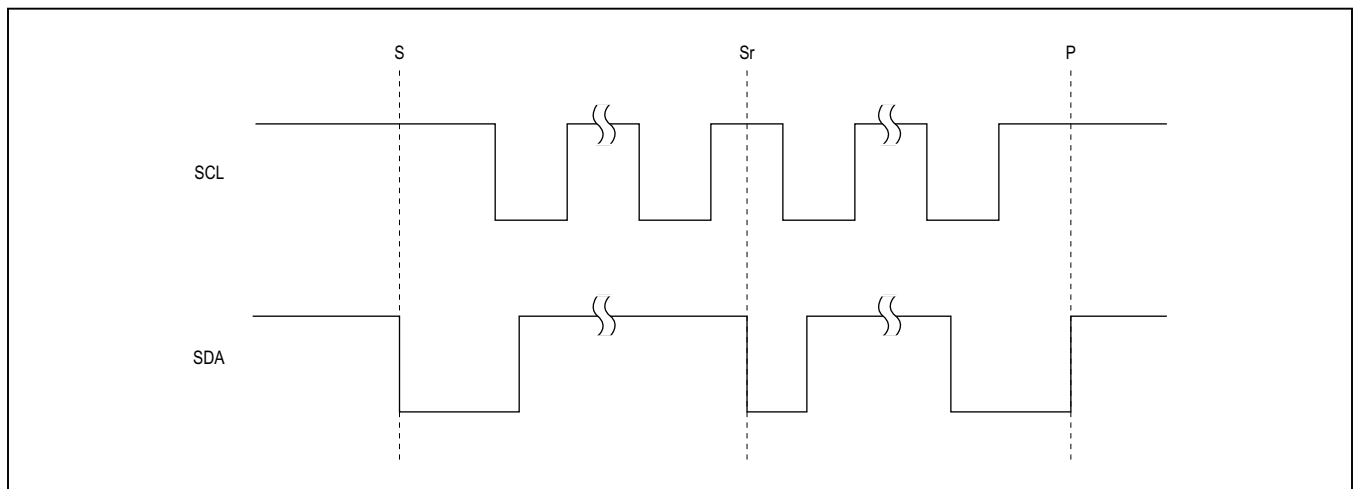

Figure 7. I²C START, STOP, and REPEATED START Conditions
When writing to the MAX14657 using I²C, the master sends a START condition (S) followed by the MAX14657 I²C address. After the address, the master sends the register address of the register that is to be programmed. The master then ends communication by issuing a STOP condition (P) to relinquish control of the bus, or a Repeated START condition (Sr) to communicate to another I²C slave. See Figure 7.